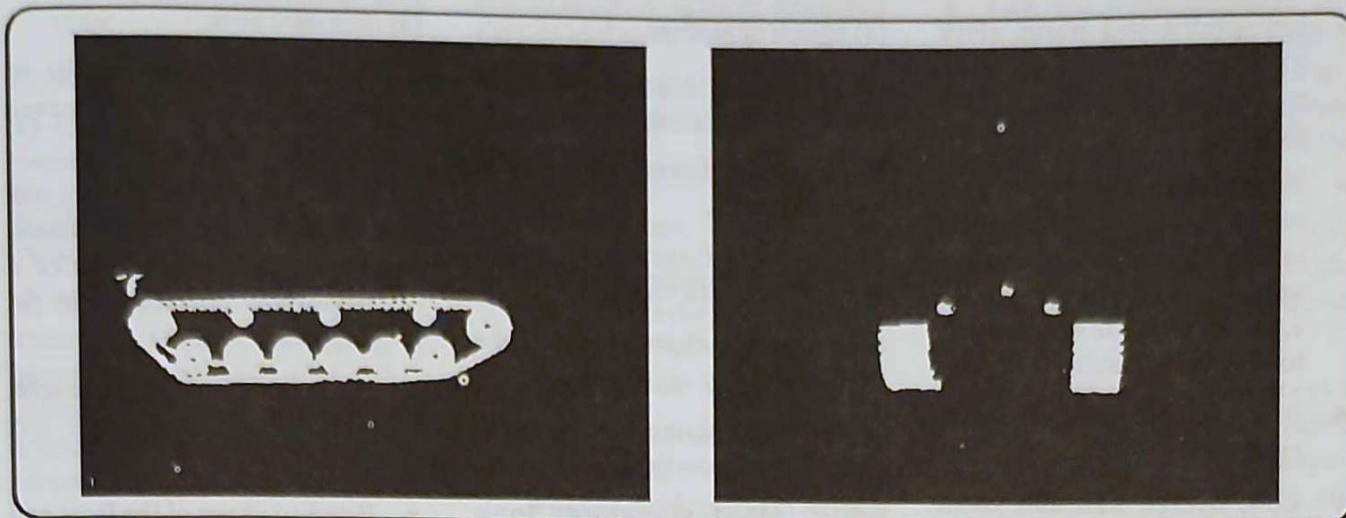

Figure A-1. M60A1 main battle tank.
a. M60A1 Main Battle Tank (Figure A-1).